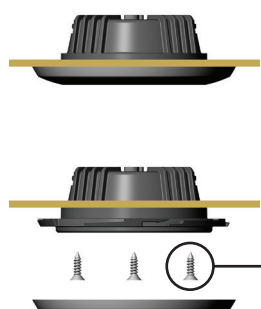

Figure 5
**B. Screw-Mount Version (Sigma Small or Sigma Large):** Twist and remove the trim ring and insert it into the cutout hole in the mounting surface. Fasten with three #4 flat head screws. (See Figure 5) Place the trim ring over the light making sure the tabs of the trim ring engage with the openings in the housing. Twist the trim ring on to secure it.